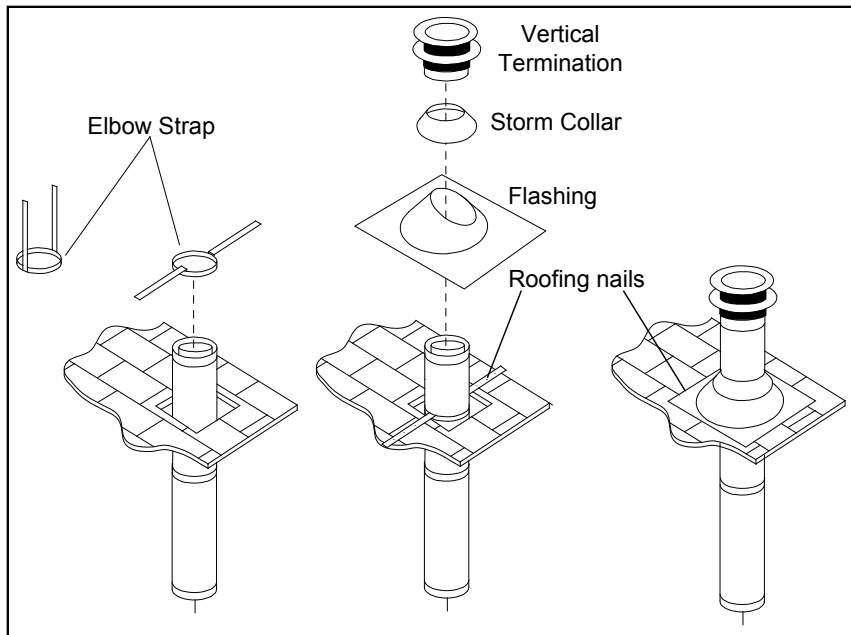

Figure 21: Vertical Vent Termination Installation.
STEP 6. Once the pipe sections have been joined, and run up through the hole in the roof, slip an elbow strap over the exposed sections, bend the support straps outwards, and push the elbow strap down to the roof level, as shown in Figure 21. Tighten the clamp around the pipe section. Use a level to make sure the pipe is truly vertical. With roofing nails, secure the support straps to the roof. Seal the nails holes heads with non-hardening mastic. Trim the excess length of the support straps that extend out beyond the edge of the flashing.
STEP 7. Slip the flashing over the pipe section protruding through the roof. Secure the base of the flashing to the roof with roofing nails. Use a non-hardening sealant between the uphill edge of the flashing and the roof. Insure the roofing material overlaps the top edge of the flashing as shown in Figure 21. Verify that you have at least the minimum clearance to combustibles at the roof line.